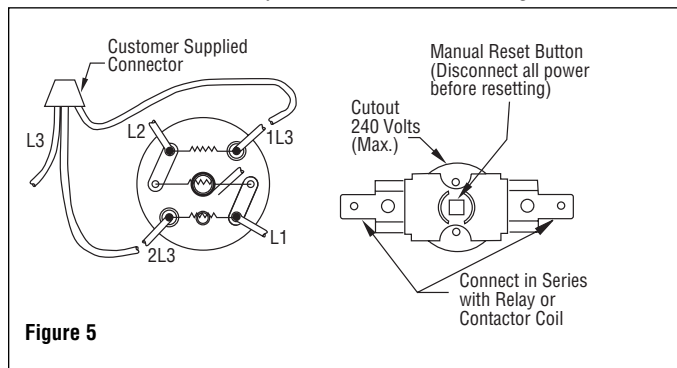

Figure 5
11. On all OUH-CO Three Phase Delta Units – Twist 1L3 & 2L3 leads together to create L3, then, attach power leads to L1, L2 & L3. Connect cutout to relay or contactor coil. (See Figs. 5 & 11)